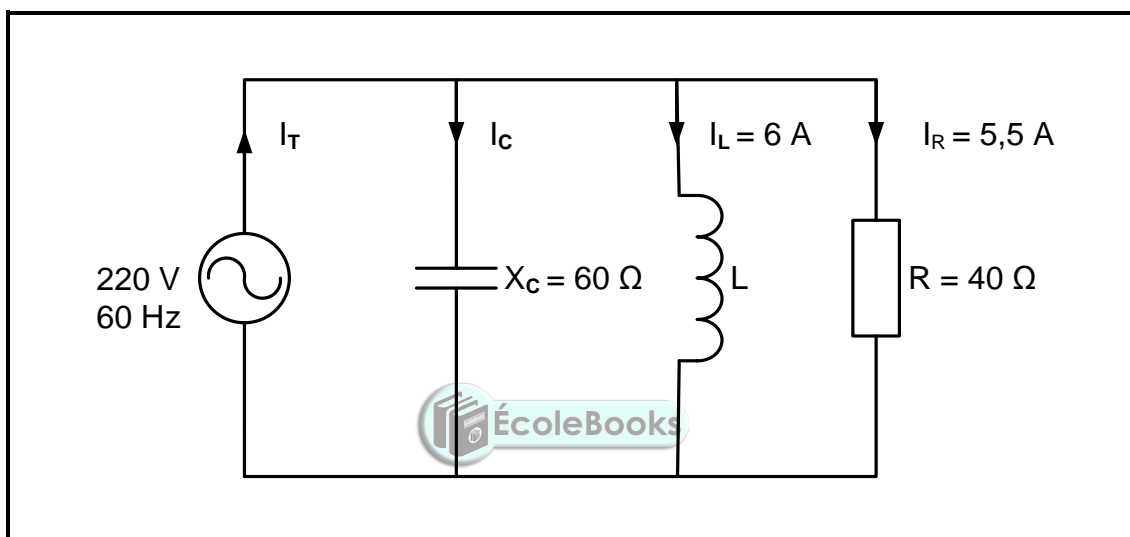

FIGURE 2.3: RLC PARALLEL CIRCUIT
- 2.3 FIGURE 2.3 below shows an RLC parallel circuit that consists of a $40\ \Omega$ resistor, an inductor with unknown inductance and a capacitor with a capacitive reactance of $60\ \Omega$, all connected across a $220\ \text{V}/60\ \text{Hz}$ supply. Answer the questions that follow.